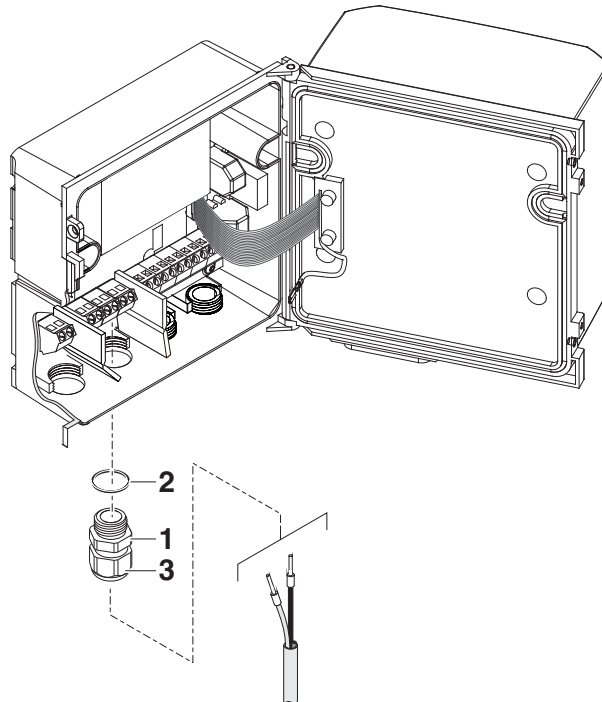

figure 3-31 Inserting lines
- 2 Screw a cable gland (pos. 1 in figure 3-31) with the sealing ring (pos. 2) into the enclosure below the respective connections.
- 3 Loosen the coupling ring (pos. 3).
- 6 Tighten the coupling ring (pos. 3).